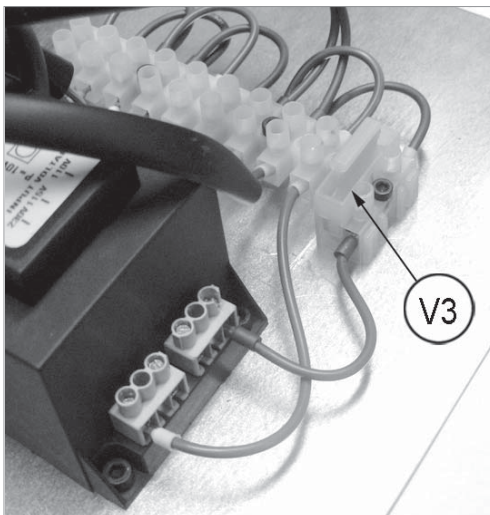
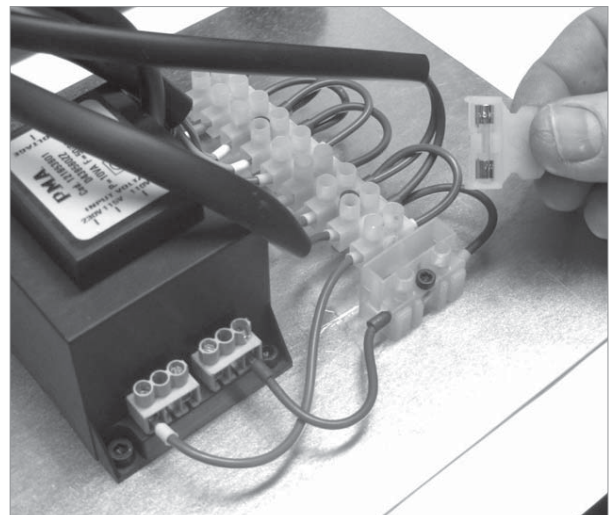

Fig. 65
Fig. 66
- 3) Take the fuse out of its seat (V3) (Fig. 65 and Fig. 66).